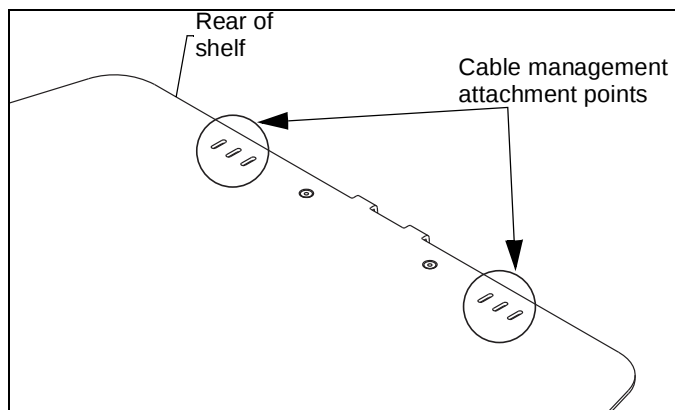

Figure 9
2. There are also attachment points on the back of the PAC910 that allow further cable management using the included zip ties (C). (See Figure 9)